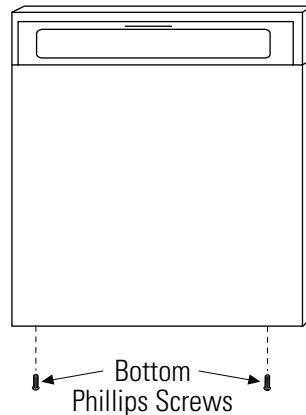

Figure 8
- Reinstall the two screws at the bottom of the door to hold the assembly to the hinge arms (Figure 8).